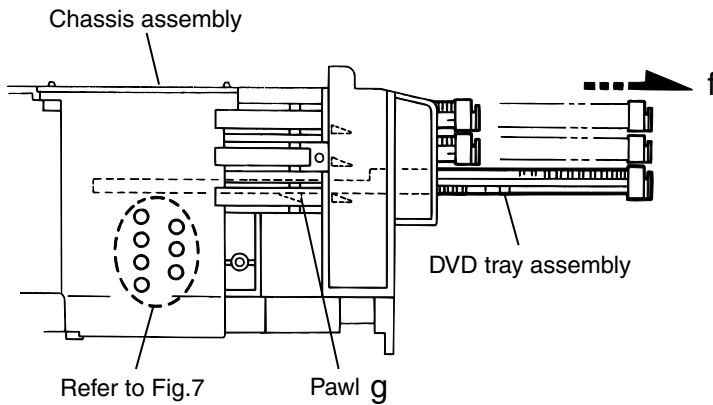

Fig.6
9. Make sure that the driver unit elevator is positioned as shown in Fig.6 from to the second or fifth hole on the left side face of the DVD Traverse mechanism assembly.
11. Pull out all of the three stages of DVD tray assembly in the arrow direction **f** until these stages stop (See Fig.6).